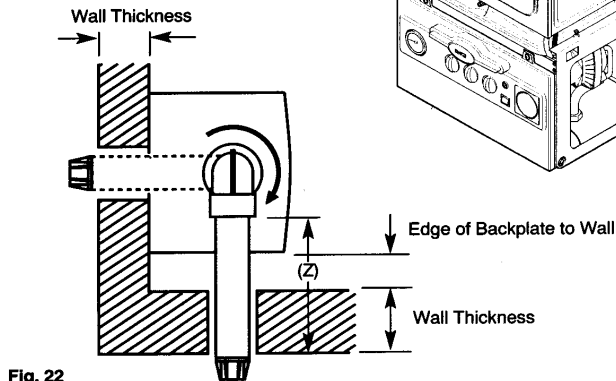

Fig. 22
4. **For rear exit** - measure the wall thickness (Fig. 22 & 23) and to this dimension add 100mm. This dimension to be known as (X).
7. **For side exit** - measure the distance from the edge of the backplate to the inner face of the wall (Fig. 22) and to this dimension add the wall thickness + 150mm. This dimension to be known as (Z).